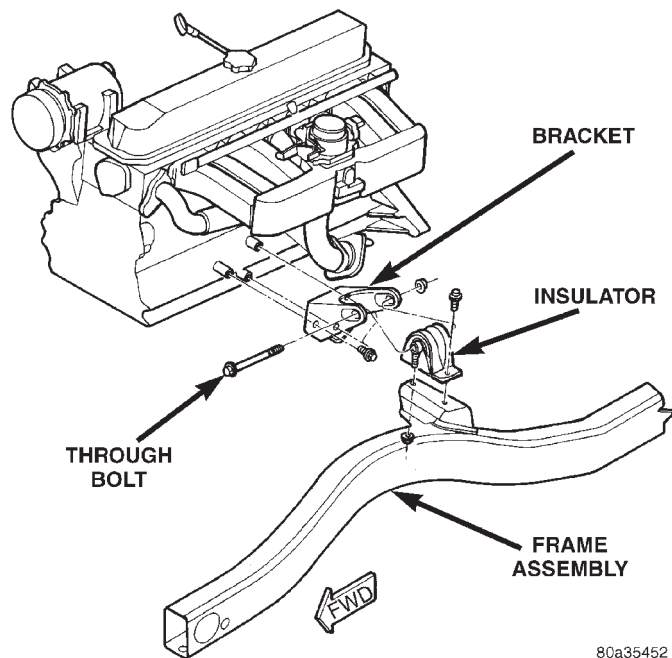
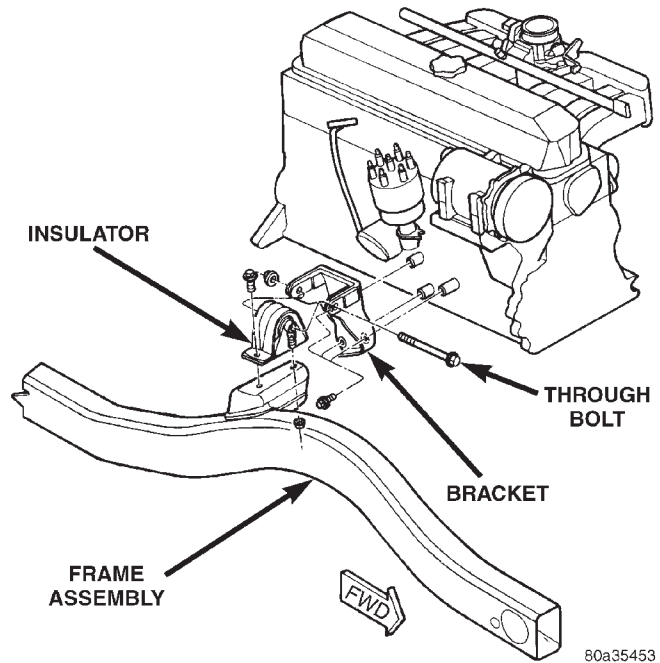

Fig. 23 Left Front Engine Mount
Fig. 24 Right Front Engine Mount
- (1) Disconnect negative cable from battery.
- (2) Raise the vehicle.
- (3) Support the engine.
- (4) Remove the nut from the through bolt (Fig. 23) (Fig. 24). **DO NOT** remove the through bolt.
- (1) If the engine support bracket was removed, position the bracket onto the block and install the attaching bolts (Fig. 23) (Fig. 24). Tighten the bolts to 62 N·m (46 ft. lbs.) torque.
- (2) Place the insulator on the support bracket. Install the insulator retaining bolts and nuts. Tighten the bolts and nuts to 52 N·m (38 ft. lbs) torque.
- (3) Install the through bolt and the retaining nut. Tighten the through bolt nut to 69 N·m (51 ft. lbs.) torque.
- (4) Remove the engine support.
- (5) Lower the vehicle.
- (6) Connect negative cable to battery.